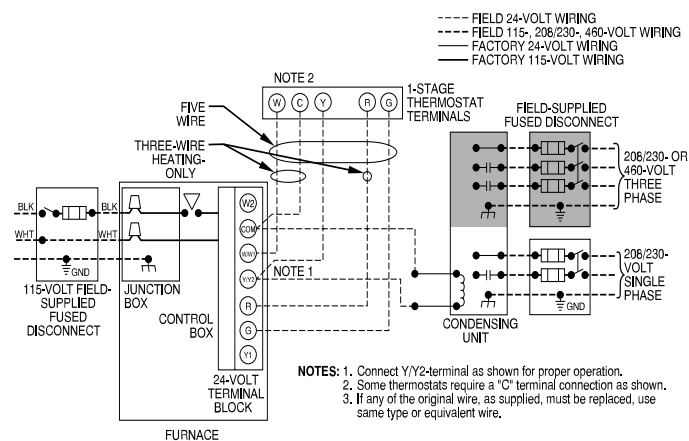

Fig. 34 – Typical Field Wiring Diagram
See Fig. 34 for field wiring diagram showing typical field 115V wiring. Check all factory and field electrical connections for tightness.
6. Connect power cord power and neutral leads to furnace power leads as shown in Fig. 34.
5. Connect field power and neutral leads to furnace power leads, as shown in Fig. 34.
Make field 24V connections at the 24V terminal strip. See Fig. 38. Connect terminal Y/Y2 as shown in Fig. 34 for proper cooling operation. Use only AWG No. 18, color-coded, copper thermostat wire.